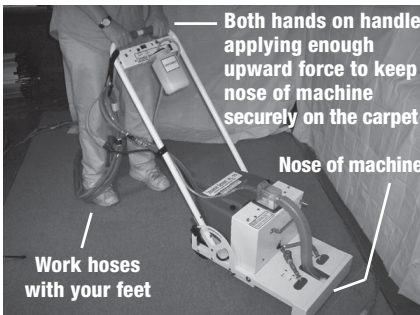

Figure 19: Walk-behind cleaning position
2. Position your machine for a cleaning pass (fig. 19). Keep both your hands on the machines handle.
chine firmly on the carpet (fig. 19).
3. During extraction, keep both your hands on the handle and work the hose with your feet (fig. 19).